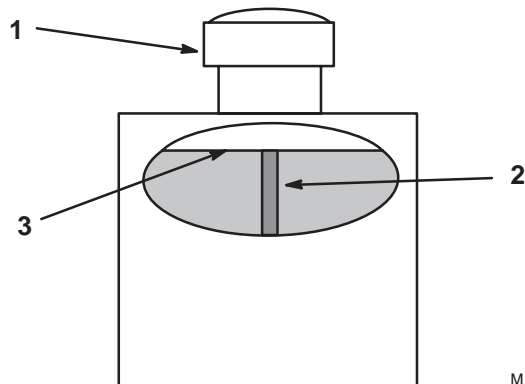

Figure 7
- Clean area around filler neck of hydraulic tank (Fig. 7).
- Remove cap from filler neck. Look inside to check if there is fluid in the reservoir (Fig. 7).
Note: Fluid level should be to the top of the baffle when fluid is warm (Fig. 7).